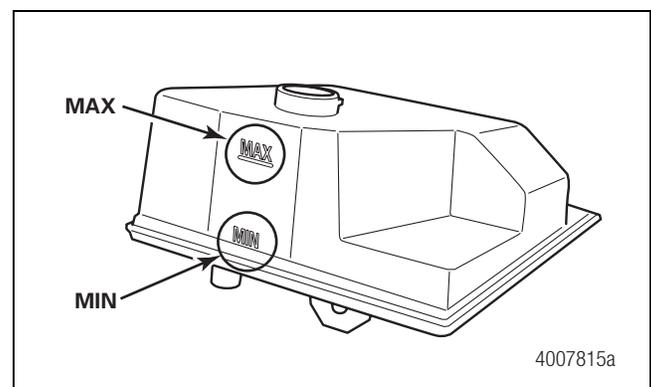

Figure 6.1
13. With the system completely charged, the brake fluid level will be between the MIN and MAX marks on the master cylinder reservoir. Figure 6.1.